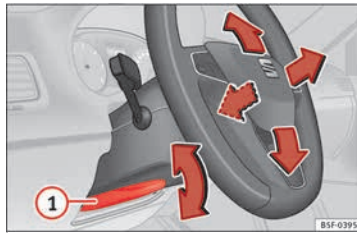

Fig. 20
- Adjusting the position of the steering wheel: Pull the » Fig. 20 ① lever down, move the steering wheel to the desired position and lift the lever back up until it locks.